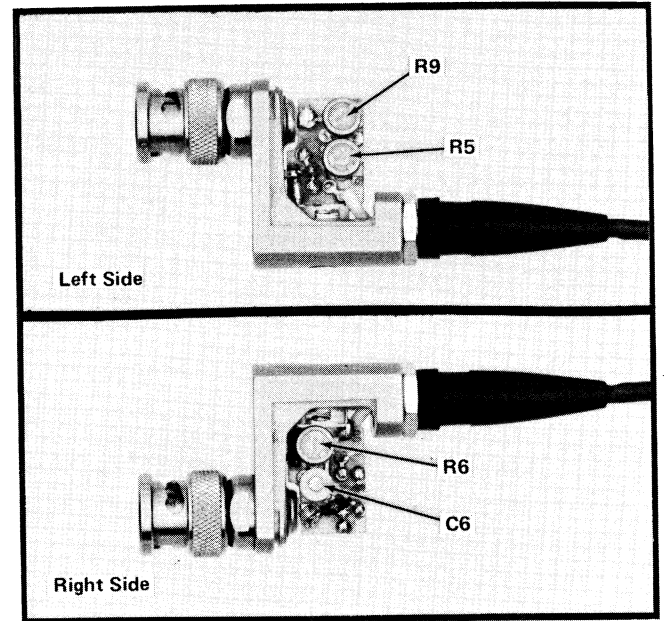

Fig. 9. Location of high-frequency compensation adjustments.
2) Adjust R5, R6, and R9 for the best overall flat response. See Fig. 9 for adjustment locations.